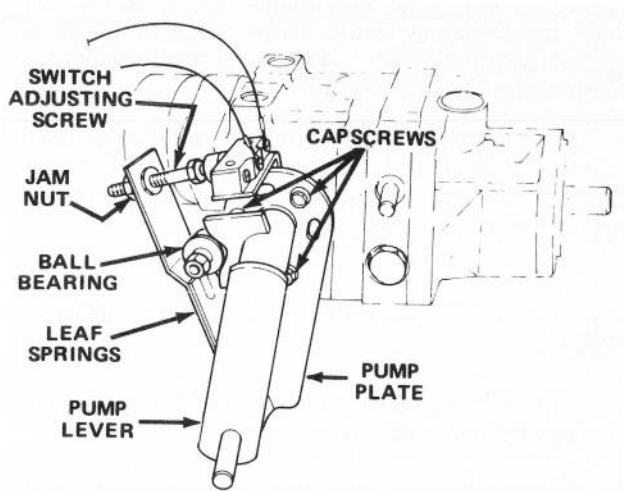

Figure 44
1. Park vehicle on a level surface and turn engine off. Apply the parking brake, tip seat forward and actuate pump lever (Fig. 44) to assure assembly is properly seated and operating freely. Correct any discrepancy.
6. Because the wheel is rotating, the pump plate must be adjusted. But before adjusting the pump plate, move throttle to SLOW. If wheel is rotating forward, loosen capscrews and lightly tap bottom of pump plate counterclockwise (Fig. 44). By contrast, tap pump plate clockwise if wheel is rotating backward (Fig. 44). When wheel stops rotating, tighten capscrews holding pump plate against side of transmission. Verify the adjustment with throttle in SLOW and FAST position.
- A. Ball bearing is loose or worn out (Fig. 44).
- F. Weak or damaged leaf springs (Fig. 44). Replace.
2. Actuate the pump lever (Fig. 44) to ensure all parts are operating freely and seated properly.
3. Loosen jam nut. Rotate switch adjusting screw (Fig. 44) until there is a gap between head of screw and switch button.